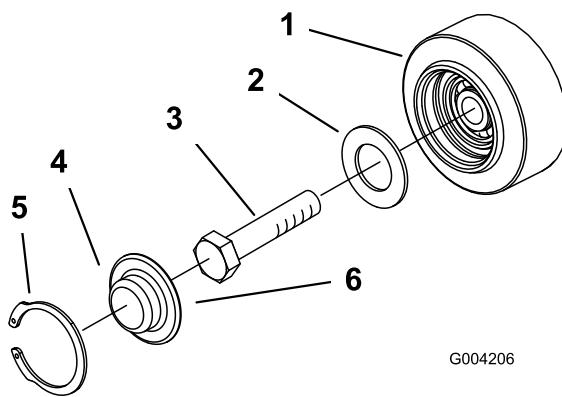

Figure 45
3. Remove the snap ring and cap from a road wheel (Figure 45).
4. Check the grease under the cap and around the gasket (Figure 45). If it is dirty, gritty, or depleted, clean out all of the grease, replace the gasket, and add new grease.
6. Place the greased road wheel cap over the bolt head (Figure 45).
7. Secure the road wheel cap with the snap ring (Figure 45).